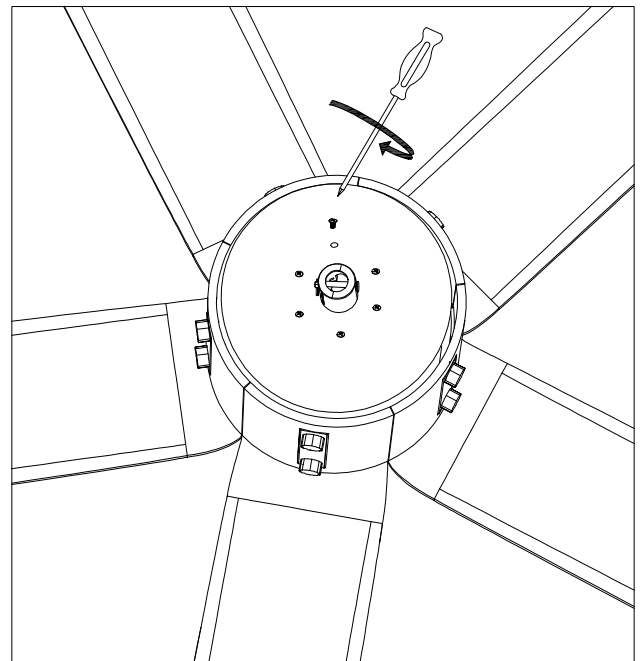

Figure 2.2
- Place the motor cover on top and align it with the hole position, and tighten the screws.(Figure2.2)